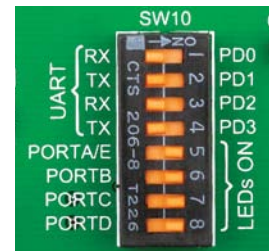

Figure 9-6: SW10.5 through SW10.8 switches are used to enable PORT LEDs
current value specified by the manufacturer. The current varies from 0.2mA to 20mA, depending on the type of the LED and the manufacturer. The EasyAVR[™] v7 board uses low-current LEDs with typical current consumption of 0.2mA or 0.3mA, depending of VCC voltage selection. Board contains 35 LEDs which can be used for visual indication of the logic state on PORT pins. An active LED indicates that a logic high (1) is present on the pin. In order to enable PORT LEDs, it is necessary to enable the corresponding DIP switches on **SW10** (**Figure 9-6**).